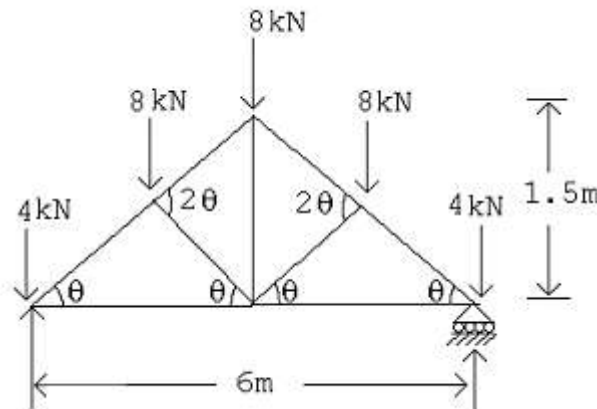

Figure: 1
2. Design one compression member and one tension member carrying maximum forces of the roof-truss loaded as shown in Figure 1. [24]